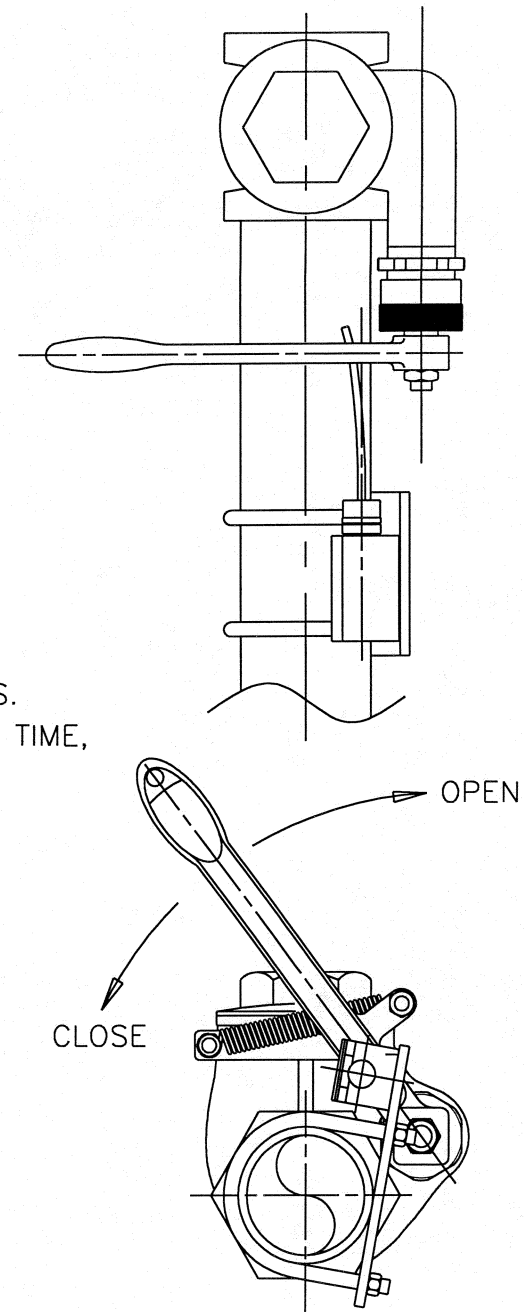

FIGURE 2
2. ATTACH SWITCH PLATE TO PIPE AS SHOWN IN FIGURE 2 USING THE TWO (2) PIPE CLAMPS AND NUTS.